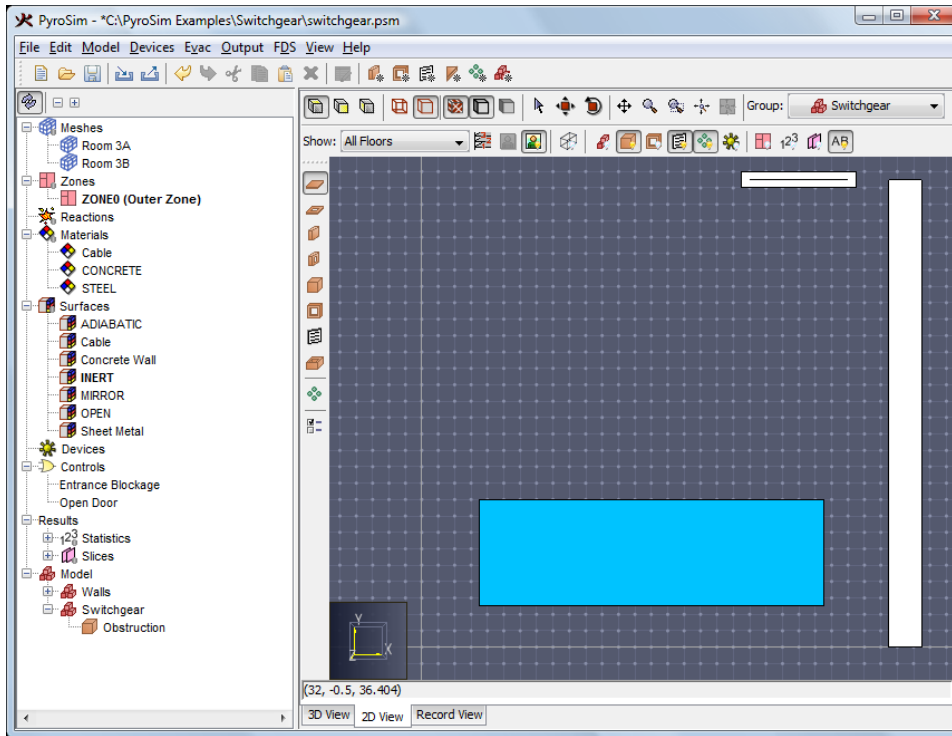

Figure 6.12. Sketch of the lower left cabinet
6. Your sketch will approximate that shown in Figure 6.12.